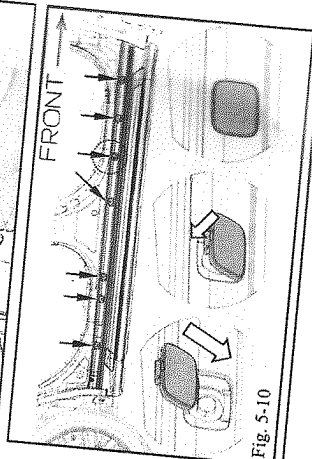

Fig. 5-10
(o) Install the seven (7) bolt covers (7), inserting the bottom tab first (snap facing up) into the running board (Fig. 5-10).